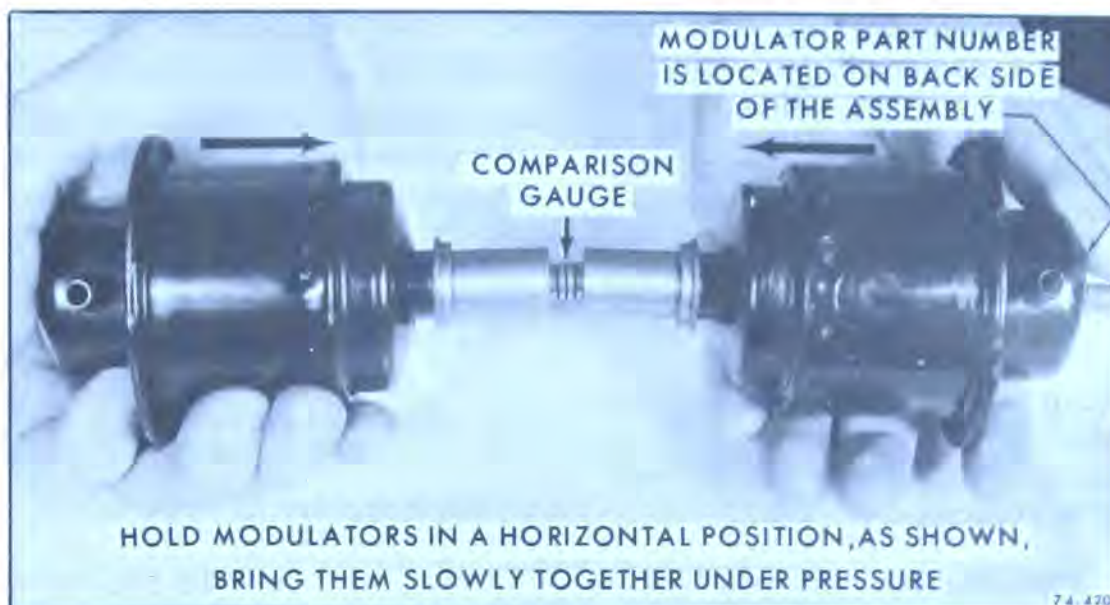
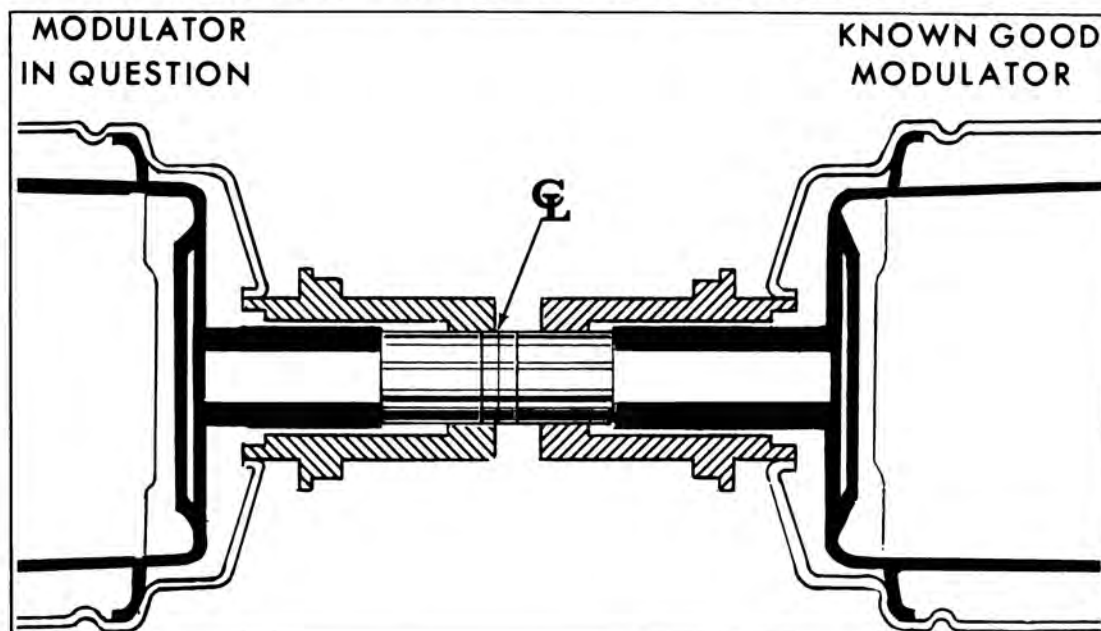

Figure 74-362—Holding Modulator in Horizontal Position
Figure 74-363—Modulator Bellows Bad
- b. Holding the modulators in a horizontal position, see Figure 74-362, bring them slowly together under pressure. The modulator bellows in question, if defective, will reach the center line of the comparison gage before the known good modulator lines up with the outer gauge line. See Figure 74-363.